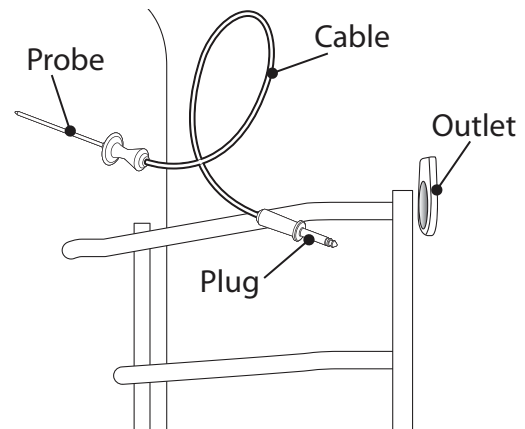

Figure 28: Meat Probe
1. In the large oven, or in the small oven on select models, locate the outlet (*Figure 28*).